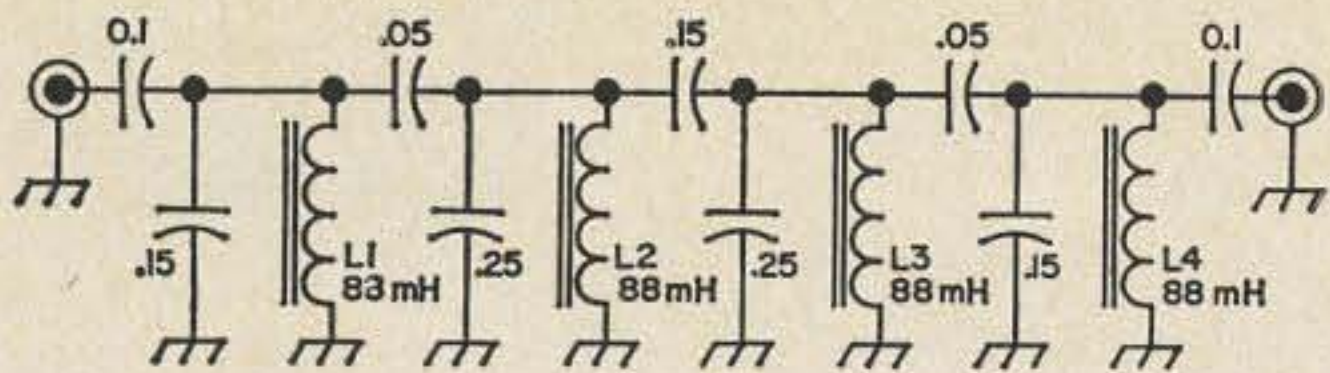

Fig. 1. Circuit of the 200 Hz CW filter. The coils are surplus 88 mH units. The capacitors were selected to proper passband response.
0.28  $\mu$ F. This value can be compared with Fig. 1. A signal generator and scope was used to determine the other capacitors, taking one toroid section at a time. Both the input and output were loaded by 500-ohm resistors during these tests.